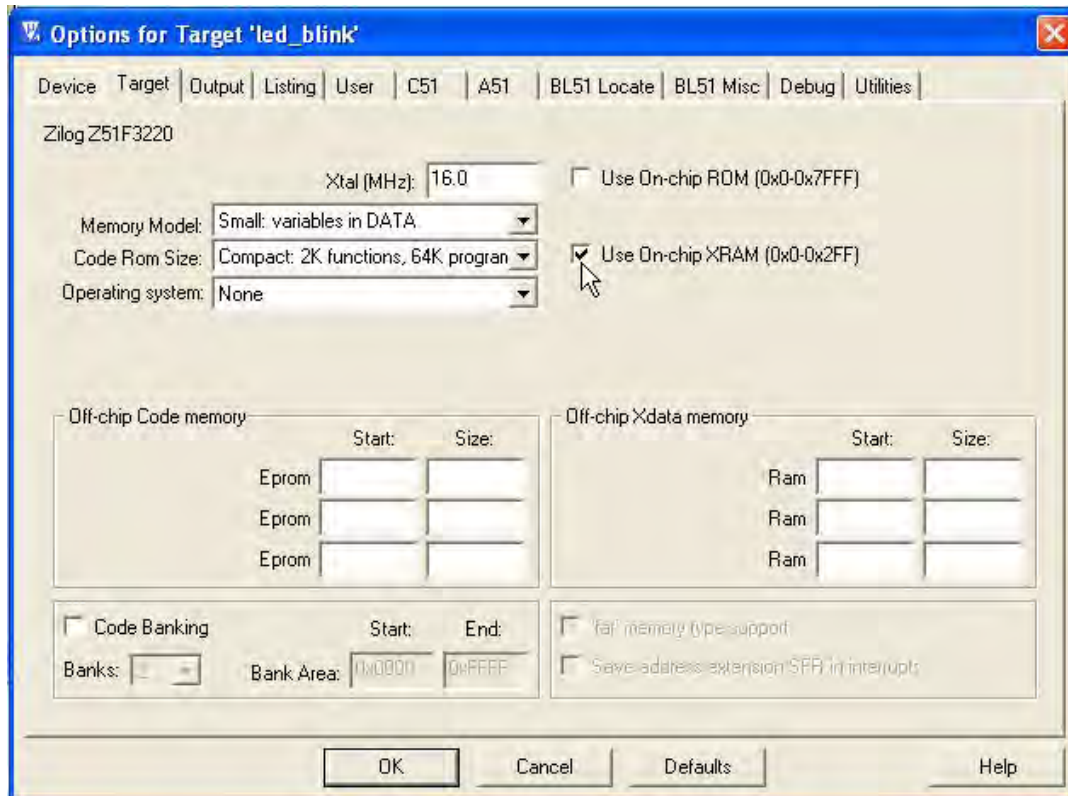

Figure 20. On-Chip XRAM
1. Select the **Target** → **Use on-chip XRAM** checkbox, as indicated in Figure 20.